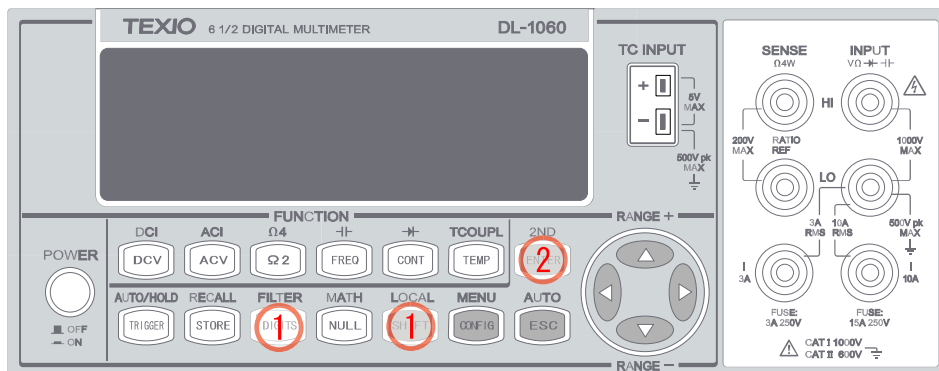

Figure 3-4
1. Press SHIFT+DIGITS buttons and then use ◀ and ▶ buttons to toggle between “OFF”, “MOVING AVG” and “REPEAT AVG” as shown in **Figure 3-4**.